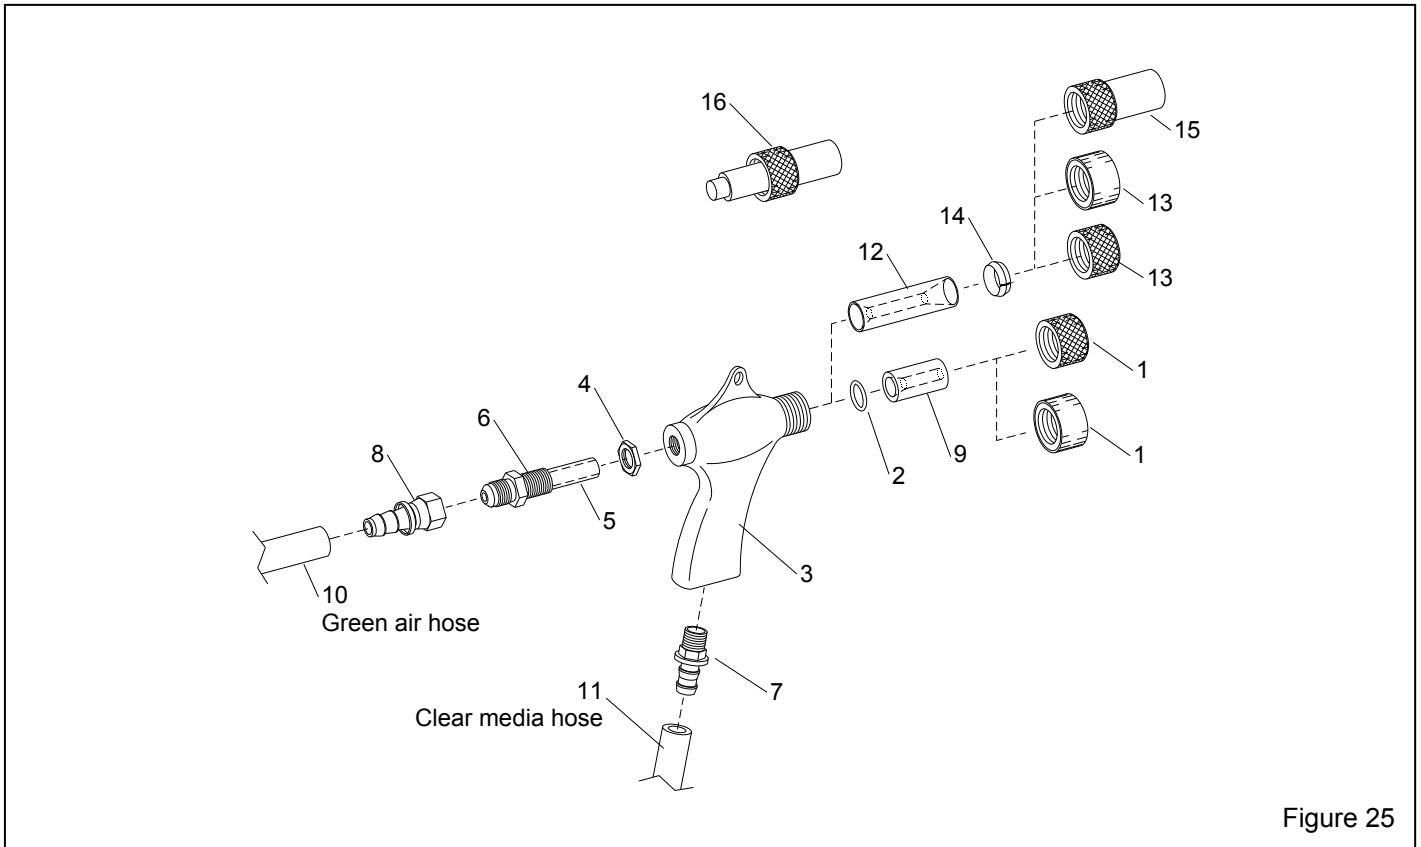

Figure 25
8.3 BNP Gun and Feed Assembly, Figure 25